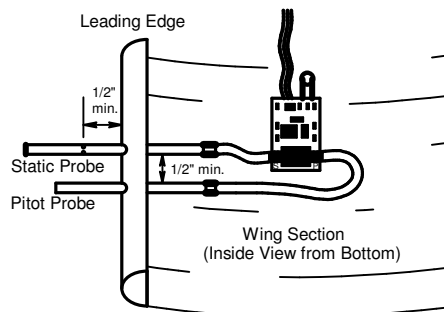

Figure 2
- Position the two probes at least ½ inch (12 mm) apart (see Fig. 2).